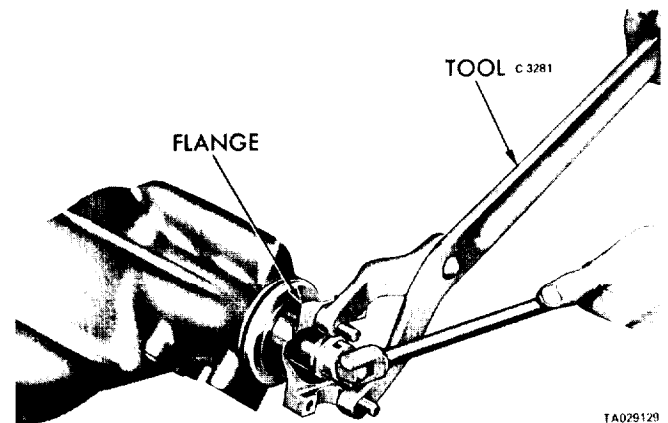

Figure 20-2. Removing or Installing Companion Flange Nut.
(5) Turn the gear carrier and tube assembly in the holding fixture so that the drive pinion shaft is vertical.
(6) Remove the nut from the drive pinion shaft, holding the companion flange with tool C-3281 (figure 20-2).